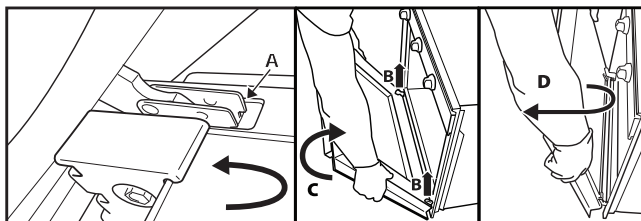

Fig. 2
3. Close the door as far as it will go (A), lift it up (B) and turn it (C) until it is released (D) (Fig. 2).